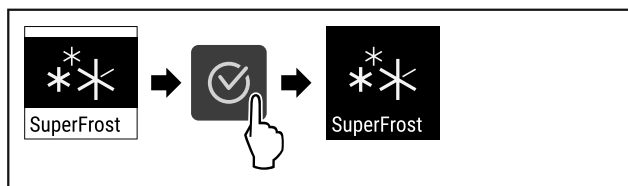

Fig. 66
- Complete steps (see Fig. 66) .